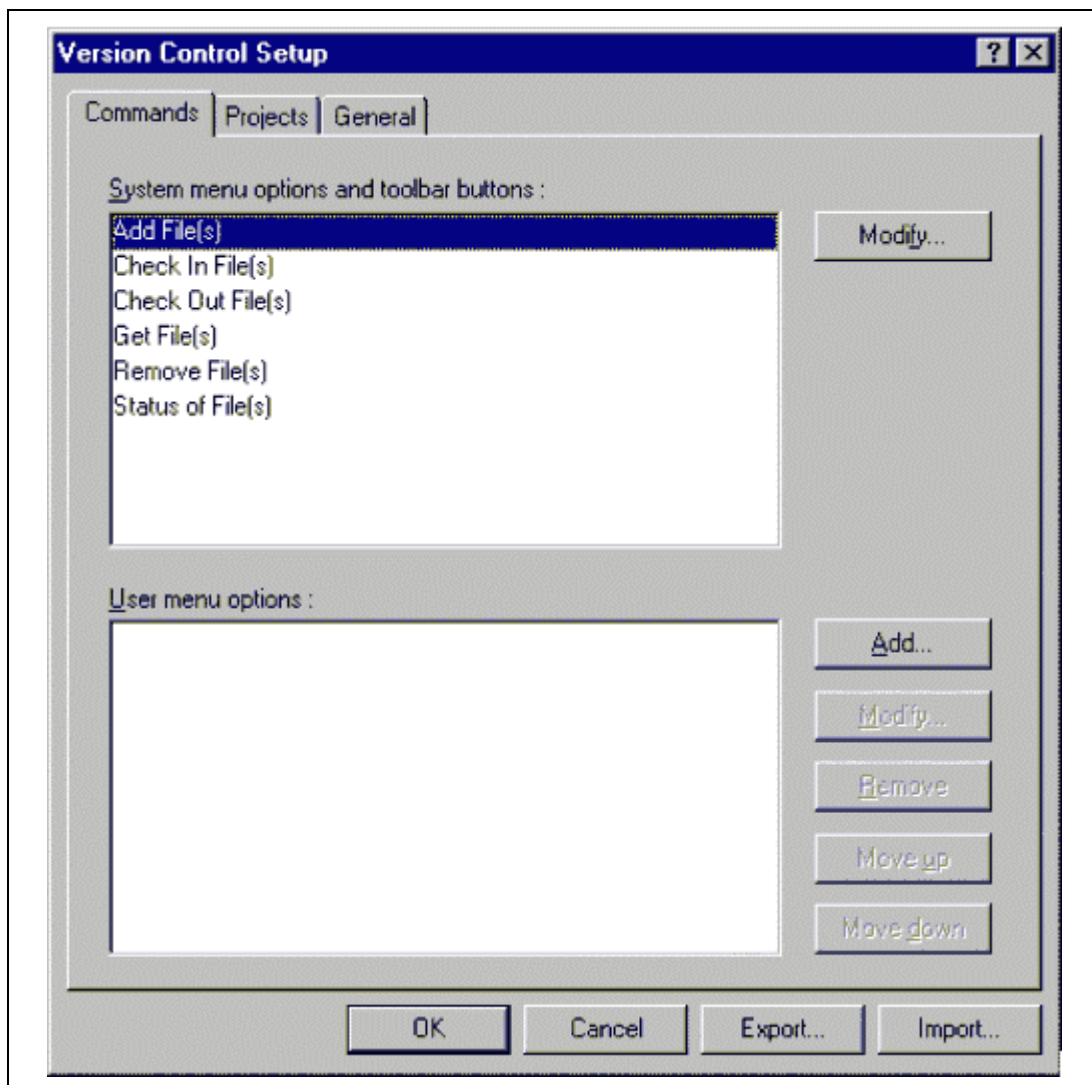
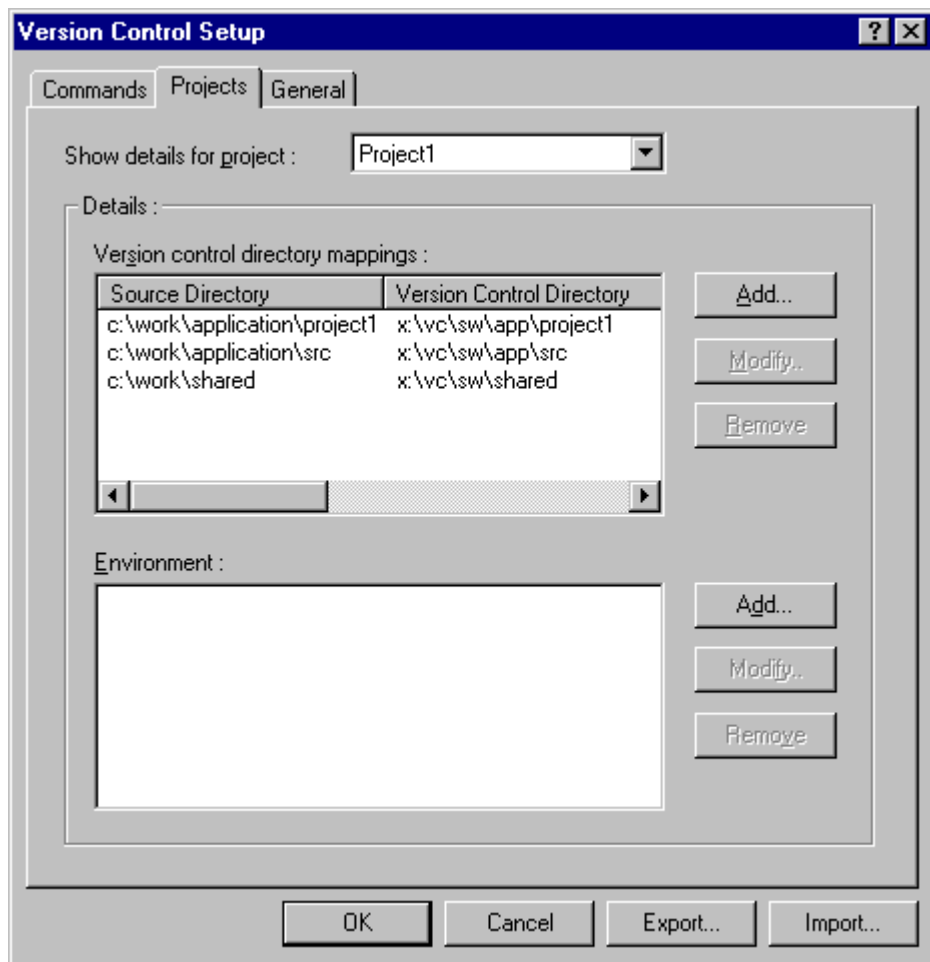

Figure 8.1: Version Control Setup Dialog Commands Tab
Figure 8.7: Version Control Setup Dialog Projects Tab
The custom version control support allows you the most flexibility in specifying how a version control system is to be used. To configure it, select **[Version Control->Configure...]**. The “Version Control Setup” dialog will be displayed * MERGEFORMAT (figure 8.1).
1. Select [**V**ersion **C**ontrol->**C**onfigure...]. The dialog shown in * MERGEFORMAT figure 8.1 will be displayed.
1. Select [**Version Control->Configure...**]. The dialog shown in * MERGEFORMAT figure 8.1 will be displayed.
However, when executed, this command can only ever get the file MAIN.C. To resolve this problem, HEW uses a system of placeholders and directory mappings. The latter tell the HEW which “working” directories (i.e. where source files are being worked on) map to which “controlled” directories (i.e. where the source files are stored in the version control system). Mappings between these two directory systems can be specified via the “Projects” tab of the “Version Control Setup” dialog * MERGEFORMAT (figure 8.7).
1. Select [**Version Control->Configure...**]. The dialog shown in * MERGEFORMAT figure 8.1 will be displayed. Select the “Projects” tab, and the dialog shown in * MERGEFORMAT figure 8.7 will be displayed.
1. Select [**V**ersion **C**ontrol->**C**onfigure...]. The dialog shown in * MERGEFORMAT figure 8.1 will be displayed. Select the “Projects” tab, the dialog shown in * MERGEFORMAT figure 8.7 will be displayed.
Select the “Projects” tab of the “Version Control Setup” dialog to view the current settings * MERGEFORMAT (figure 8.7).